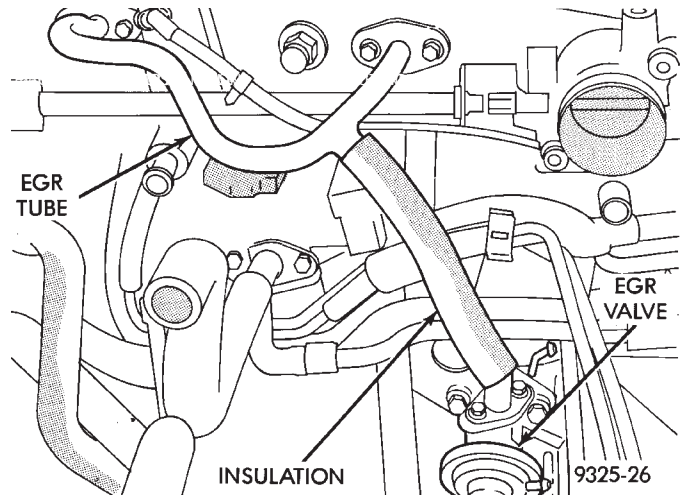

Fig. 11 EGR Tube—3.5L
(1) Remove air cleaner plenum from rear of engine.
(2) Remove EGR tube to EGR valve screws.
(3) Remove EGR tube to intake manifold plenum screws (Fig. 11).
(4) Remove EGR tube. Discard gaskets.
(5) Clean gasket surfaces.